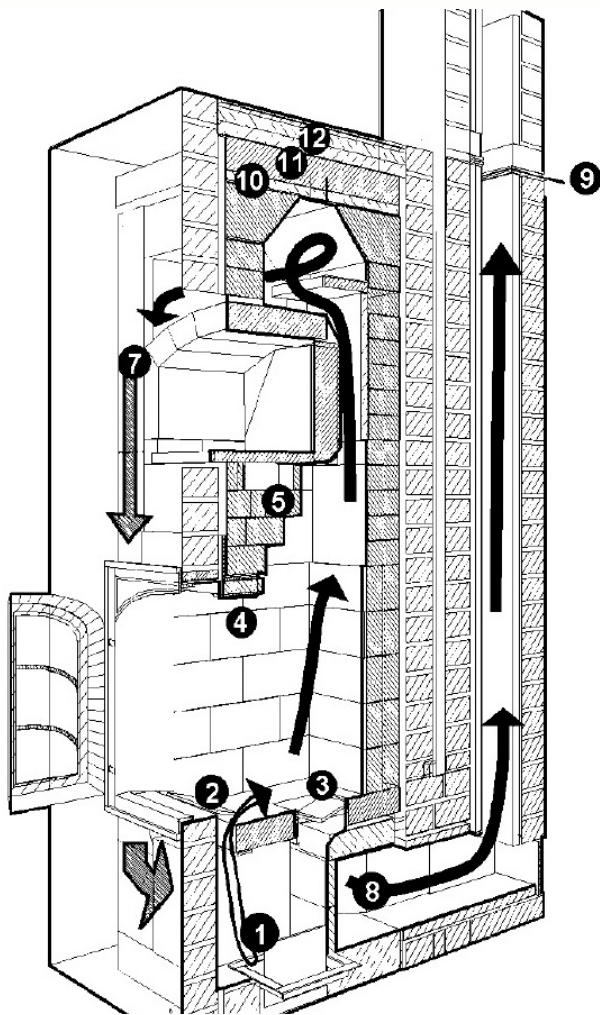

Figure 4. Gas flow in a Heat-Kit 2 with front bakeoven
Figure 4 illustrates the gas flow through the Heat-Kit 2. It is shown with the bakeoven option. Outside combustion air enters at a lower level through the foundation. It passes through the air damper (1) and then into the firebox (2). Rapid combustion of the fuel charge results in long flames, which are directed around the bakeoven and then burn out in the secondary combustion chamber. The hot gases are cooled in two downdraft heat exchange channels (7) and enter a connecting plenum (8) under the firebox. From there the cooled exhaust gases enter the chimney at floor level. The design of the connecting plenum allows the chimney to be connected anywhere at the back or side of the heater without unbalancing the downdraft channels. A shutoff damper (9) in the chimney is closed once the fire is completely out, after about two hours. This interrupts the chimney draft and prevents the large amount of energy now stored in the masonry from bleeding out through the flue.